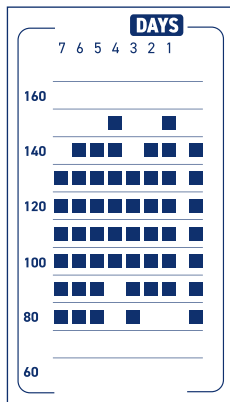

Figure 5
- A bar chart appears on the right of the display showing the measurement results for the last 7 days. Here you can track your blood pressure measurement history (Figure 5). The right-hand bar shows the current measurement. The bars for the previous 7 days appear to the left. If several measurements were performed on the same day, the average value of those measurements is displayed. If no measurements were taken on a particular day, the column remains empty.